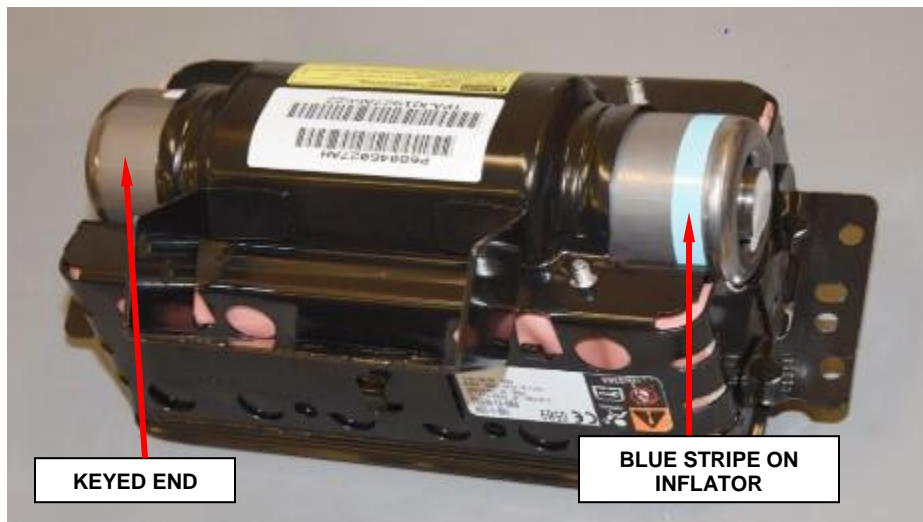

Figure 55 – Insert Inflator (Shown with Cushion Installed)
h. Slide **new** inflator into housing. The keyed end is inserted first, therefore the blue stripe on the inflator will be located at the open end, as shown (Figure 55).